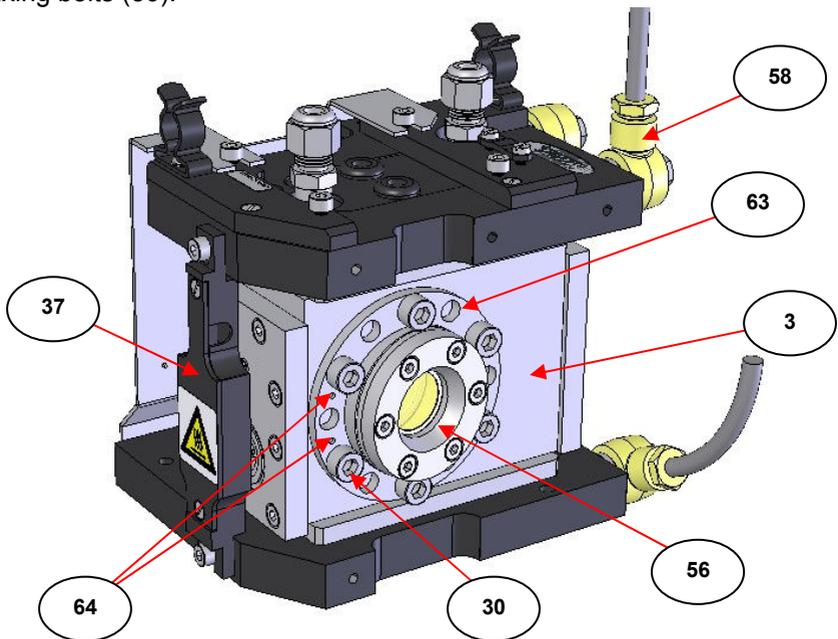

Fig 9. Wedged Window Assembly Fitted for Left to Right Beam Direction Reflectance Mode of Operation
Take the wedged window assembly (56) with its silicone O-ring (35) fitted in place around its flange plate (63) and orientate it to the HTHP Cell body (3) such that the thickest edge of the wedged window assembly (56) is to the left of the cell body (3) and the thinnest edge is to the right nearest the banjo fittings (58). Around the edge of the flange plate (63) of the wedged window assembly (56) there are **twelve** M6 size bolt location holes. At the thickest edge of the wedged window assembly (56) there are two indentation marks (64) either side of one of the twelve M6 bolt location holes on the flange plate (63). When this bolt location hole on the flange plate (63) and the indentation marks (64) are positioned as shown in **Fig 9**, six of the remaining eleven location bolt holes on the flange plate (63) align with their threaded hole location fittings on the HTHP Cell body (3) to clamp the wedged window assembly (56) in position using the six M6 x 10mm fixing bolts (30).
Note: *Fig 9. shows the HTHP Cell with the internal heater block assembly (10) set up for the **decomposition** mode of operation. The position of the heater block assembly (10) and external wiring strap (37) as fitted to either end of the HTHP Cell does not affect any window removal or fitting.*